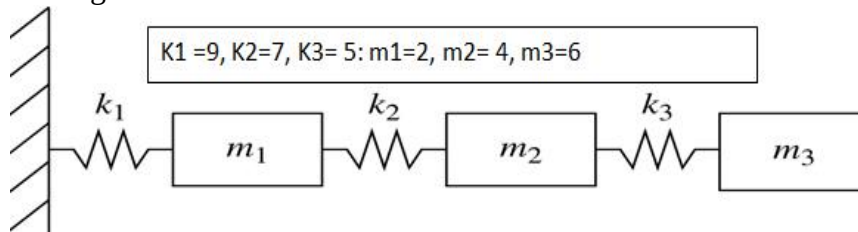

Figure.3
- 3 Calculate the natural frequency and modes shape for the MDOF system as shown in figure.3